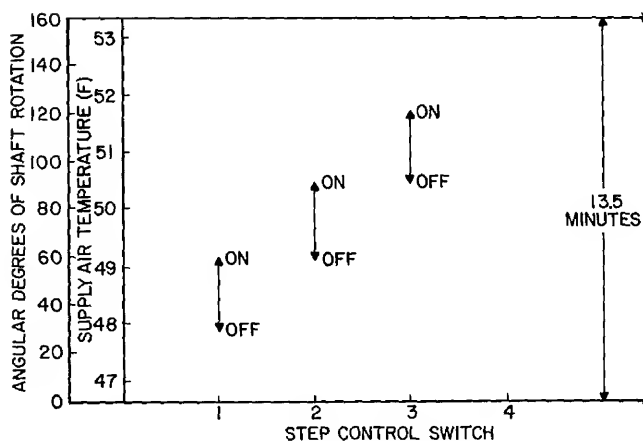

Fig. 19 — Step Controller Sequence
3. If supply air leaving unit is above 50 F (or other field-set temperature), step controller will operate to de-energize compressor unloader solenoids (compressor loads up) until set temperature is achieved. An interval of 13.5 minutes is required to maximum loading position. Refer to unit label diagram for unloader sequencing. Also see Fig. 19.
Determining Switch Settings — Switches are factory set at angular settings as shown in Fig. 19 (also shown on unit label diagram). To reset, if desired, determine angular differential for each switch and between switches. Then determine minimum differential or throttling range of proportional thermostat to provide desired step controller differential or throttling range. This range should be wide enough to prevent rapid cycling from one capacity step to another. Then adjust cams to new settings as required.
Cam Adjustments — The step controller is shipped with cams set to operate switches (i.e. compressor unloaders) as shown in Fig. 19. All switches are closed (compressor unloaded). The shaft is positioned all the way counterclockwise (as viewed from motor end).